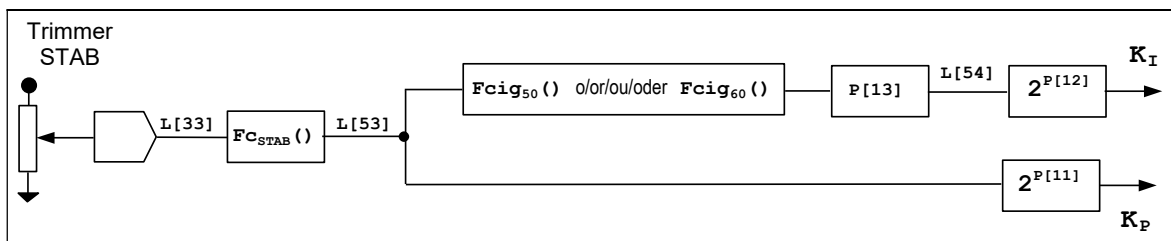
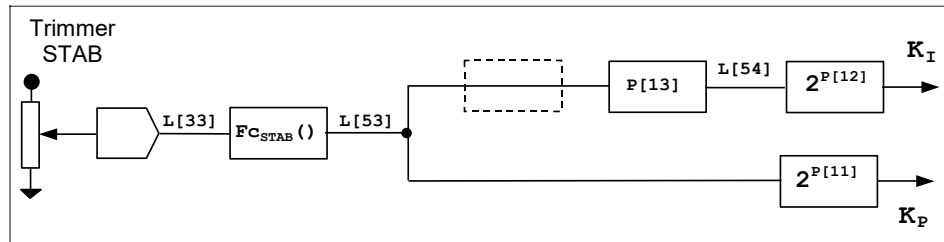
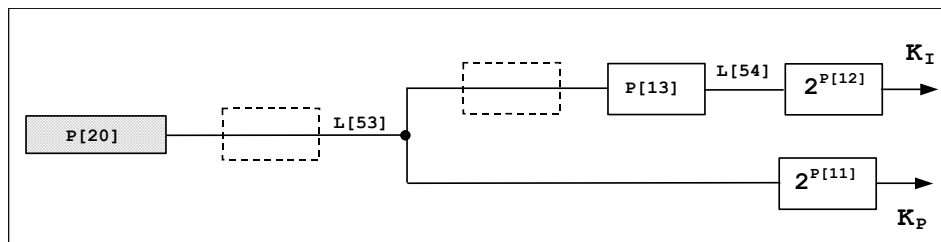

fig. 7a: drawing of the numeric elaboration of the proportional and integral gain by a DSR (standard) with the STAB trimmer enabled
fig. 7b: drawing of the numeric elaboration of the proportional and integral gain by a DSR/A with the STAB trimmer enabled
fig. 7c: drawing of the numeric elaborations of proportional and integral gain by all DSRs with STAB trimmer disabled
The numeric elaborations carried out by the DSR for obtaining the proportional and integral gain values are given in the block diagrams in figures 7a(2), 7b(2) and 7c.
If the STAB trimmer is enabled (STAB Flag Trimmer present) its angular position, available at location L[33], is transformed by the  $F_{C_{STAB}}^{(2)}$  function into the numeric value available at location L[53](3) (figs. 7a and 7b). If the STAB trimmer is disabled, the value of location L[53](3) directly becomes the value set using the P[20] parameter (fig. 7c).
The integral gain, available at location L[54](3) minus the multiplication by a coefficient, depends on the value of the proportional gain at location L[53](3); in the standard DSR (grey box) with the STAB trimmer enabled (STAB Flag Trimmer present) the value of location L[53](3) at 50Hz is transformed by the function  $F_{cig_{50}}^{(2)}$  and by the multiplication of the value of parameter P[13], in the numeric value available at location L[54](3); at 60Hz the transformation function is  $F_{cig_{60}}^{(2)}$ , different from that at 50Hz, (fig. 7a); in the other versions of the DSR (fig. 7b), for example DSR/A (blue box), or if the STAB trimmer is disabled(4) (fig. 7c), not only is there a difference between the integral value at 50Hz and at 60Hz, but even the value of location L[54](3) is obtained by simply multiplying the proportional gain at location L[53](3) by the value of parameter P[13].